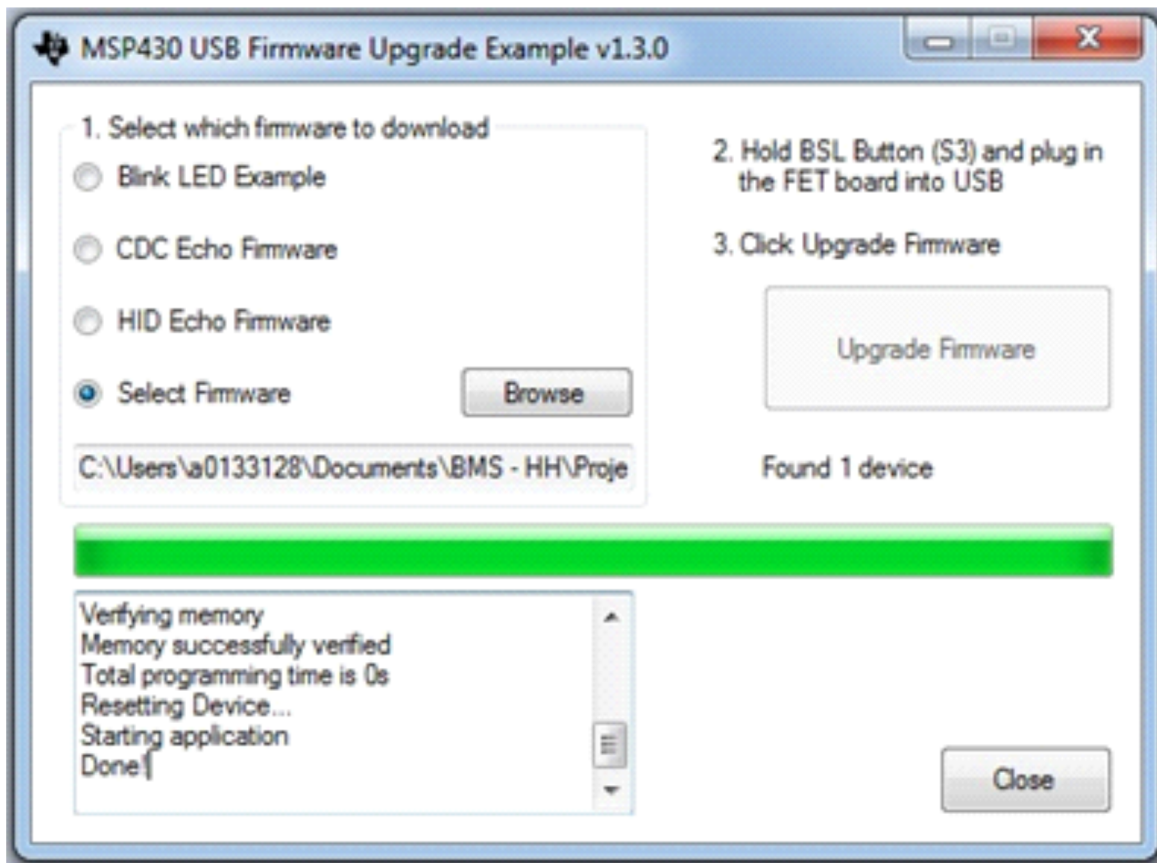

Figure 12. MSP430 USB Firmware Upgrade Example—Successful FW Update
14. After the firmware update is completed, the *MSP430 USB Firmware Upgrade Example* software window should display the same content as Figure 12.